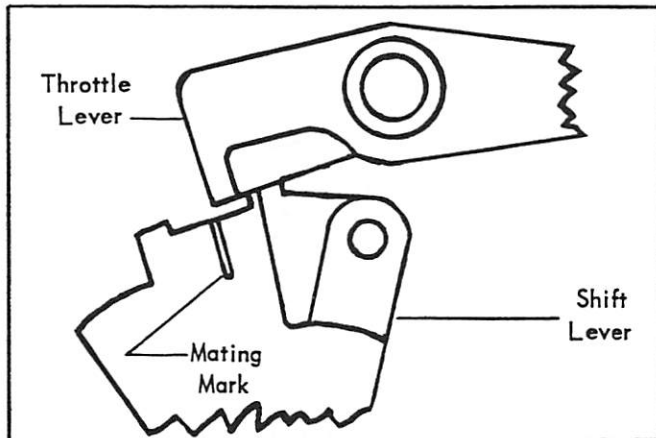

Figure 7. Linkage Adjustment
4. Adjust linkage so that mating mark on shift lever is to left of alignment mark on throttle control lever. (Figure 7)